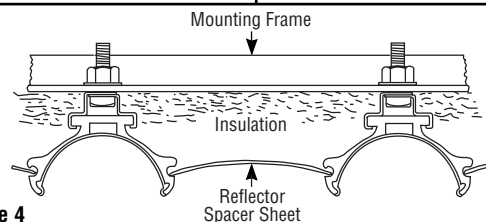

Figure 4
4. **Reflector Spacer Sheets** — Where heaters are not mounted side by side (see Figure 4), reflector spacer sheets can be used between heaters. These reflector spacer sheets and companion reflectors consisting of an extruded aluminum housing with reflector sheet and mounting clamps are available. Check factory.
5. **Insulation** — Where unusually high work temperatures are encountered, it may be desirable to insulate backs of heaters with high-temperature fibrous insulation. A suggested method of accomplishing this is indicated in Figure 4.